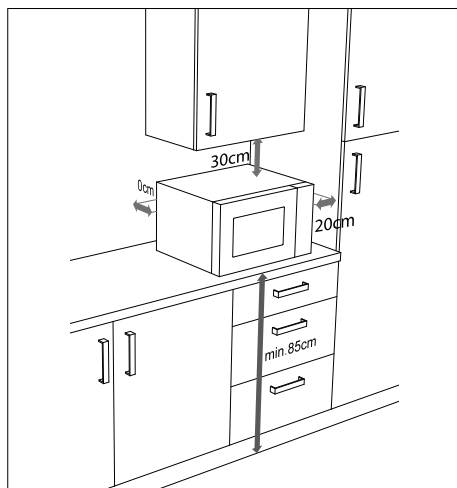

Fig. 4 – Appliance clearance
- ▶ To ensure adequate ventilation, the clearances specified in “**Fig. 4 – Appliance clearance**” must be maintained. The spacer at the back of the appliance must touch the wall. It ensures that the correct clearance is maintained when positioning the microwave.